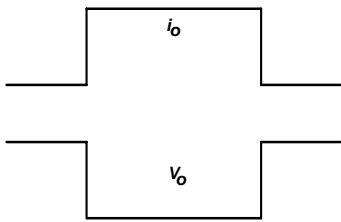
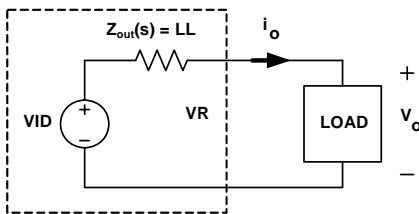

FIGURE 21. DESIRED LOAD TRANSIENT RESPONSE WAVEFORMS
FIGURE 27. VOLTAGE REGULATOR EQUIVALENT CIRCUIT
Assuming the compensator design is correct, Figure 21 shows the expected load transient response waveforms if C_n is correctly selected. When the load current i_{core} has a square change, the output voltage V_{core} also has a square response.
Figure 21 shows the desired load transient response waveforms. Figure 27 shows the equivalent circuit of a voltage regulator (VR) with the droop function. A VR is equivalent to a voltage source (= VID) and output impedance $Z_{\text{out}}(s)$. If $Z_{\text{out}}(s)$ is equal to the load-line slope LL, i.e., a constant output impedance, then in the entire frequency range, V_o will have a square response when I_o has a square change.